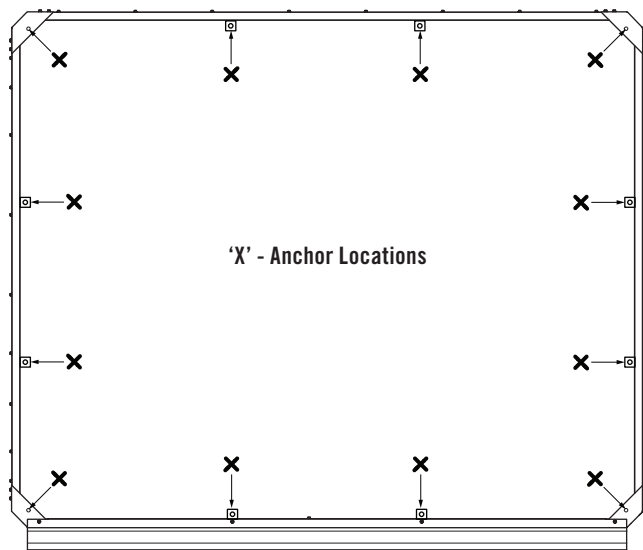

FIGURE 4.4
- The installer is responsible for ensuring the slab or concrete pads are sufficient to support the shed and sustain wind loading. Do not directly anchor your shed to pavers. All Stratco Handi-Mate™ Sheds must be securely bolted to a permanent concrete base with sufficient masonry anchors as specified in Figure 4.4 to prevent wind uplift.
The recommended anchor spacing in Figure 4.4 below, where anchor points are no greater than 900mm apart, will satisfy engineering requirements for N1, N2 and N3 wind zones.